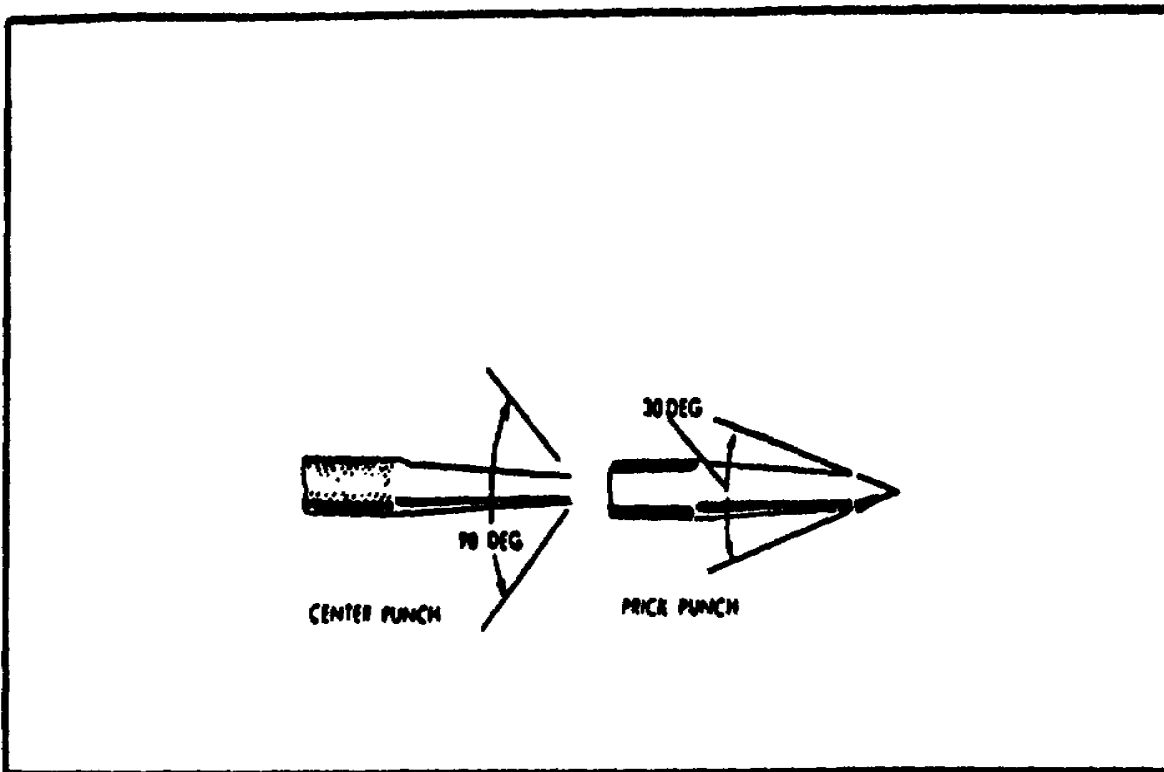

FIGURE 112. CONE POINT PUNCH ANGLES.
(2) *Cone Point Punches.* Center and prick punches are ground to cone points. The correct point angle for center punches is  $90^\circ$ ; the point angle for prick punches is  $30^\circ$  (figure 112). These angles may be changed for special purposes.